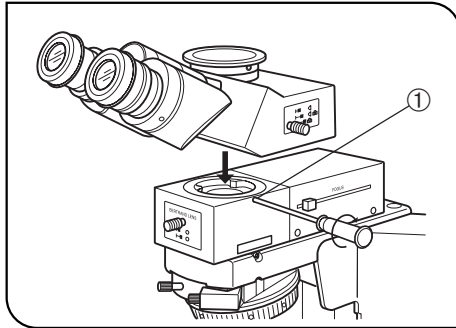

Fig. 7
**6 Mounting the Observation Tube (Fig. 7)**
1. Using the Allen screwdriver, fully loosen the observation tube clamping screw ① on the intermediate attachment.